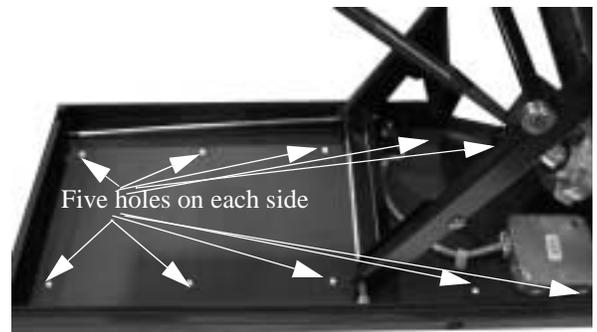

Figure 3. Secure Lift
3. With the lift centered, use the base of the lift mechanism as a template (see Figure 3) to transfer at least 4 holes, as close to corners as possible, to the bottom of the enclosure.